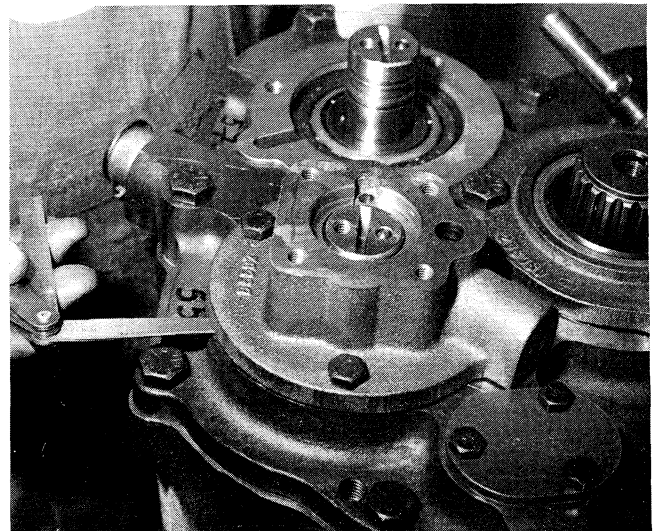

Figure 9-2. Measuring shim space between pump mount and the rear cover.
3. Use a taper gauge to measure the space between the pump mount (39) and the rear cover (11). See Figure 9-2.